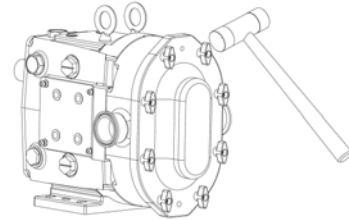

Figure 23: Removing Cover Wing Nuts
1) Start by removing the cover wing nuts using a soft mallet to loosen (Figure 23). During disassembly place all parts on a clean, protected surface with finished surfaces and seal faces facing up.